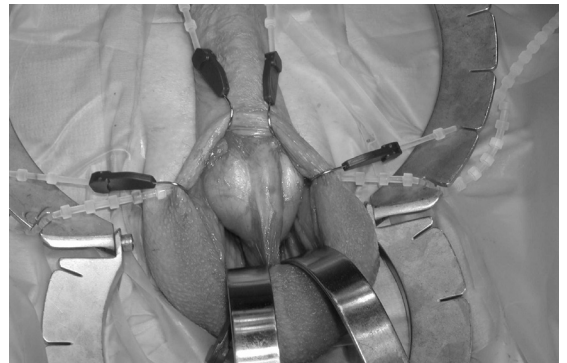

Figure 4-16.
5. This is repeated on the contralateral side exposing the scrotal septum. (**Figure 4-16**)